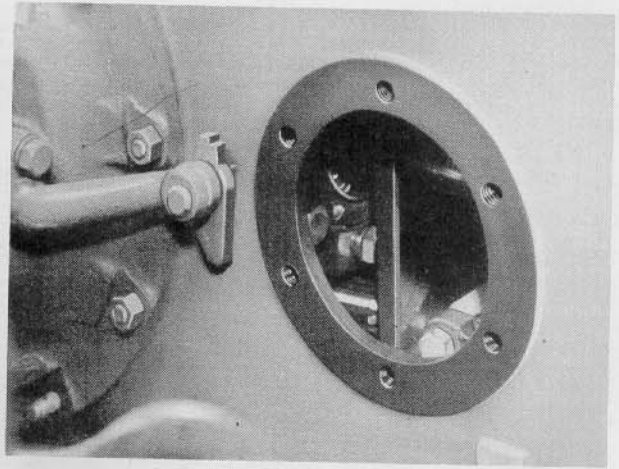

Figure 4
3. Remove the cover assembly from the right side of the tractor center housing. See Figure 4.